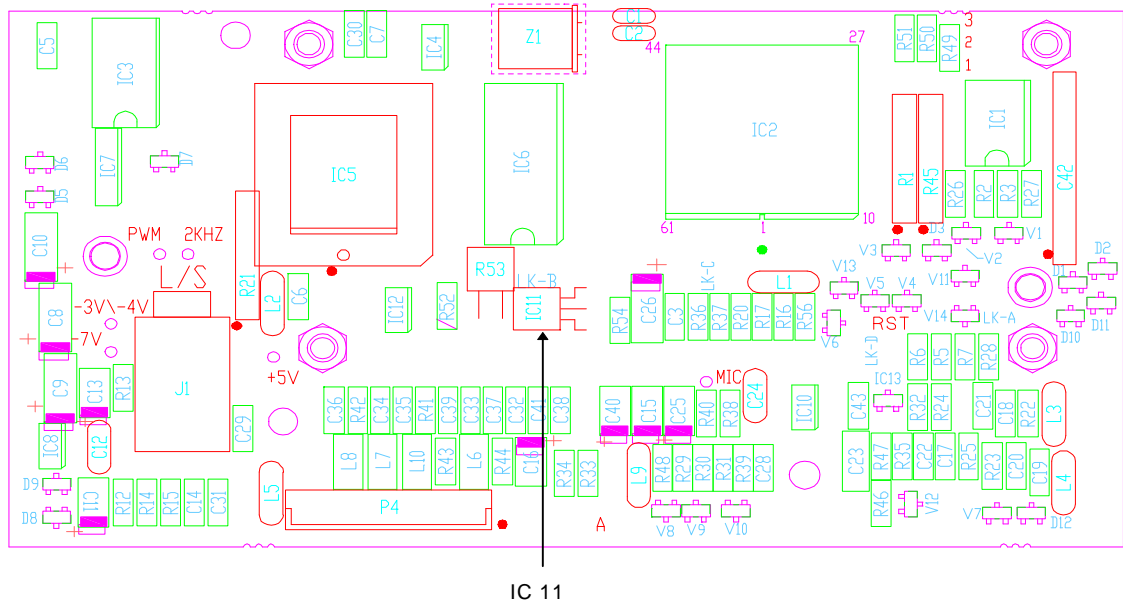

Figure 1: Location of IC11
- ❑ Locate IC11. Refer to Figure 1.
- ❑ Insert the regulator into the three holes. *Flat side down*. Refer to Figure 1.